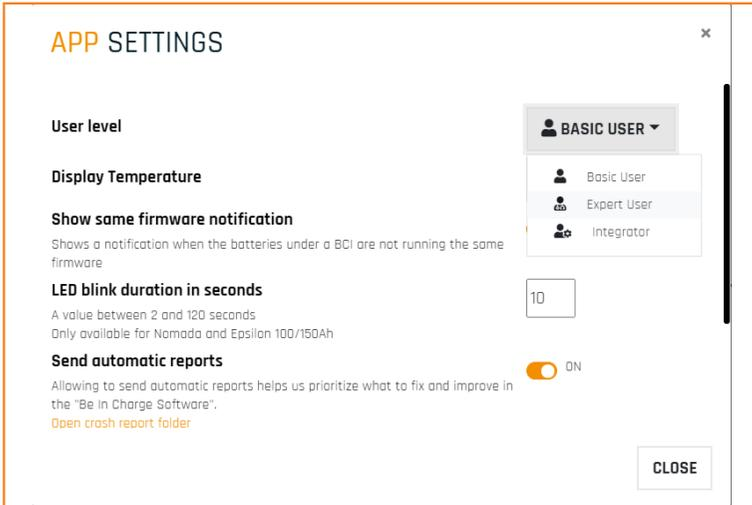
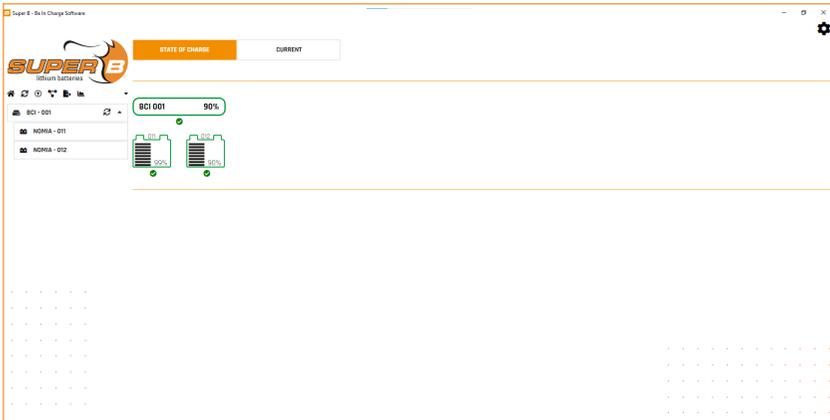
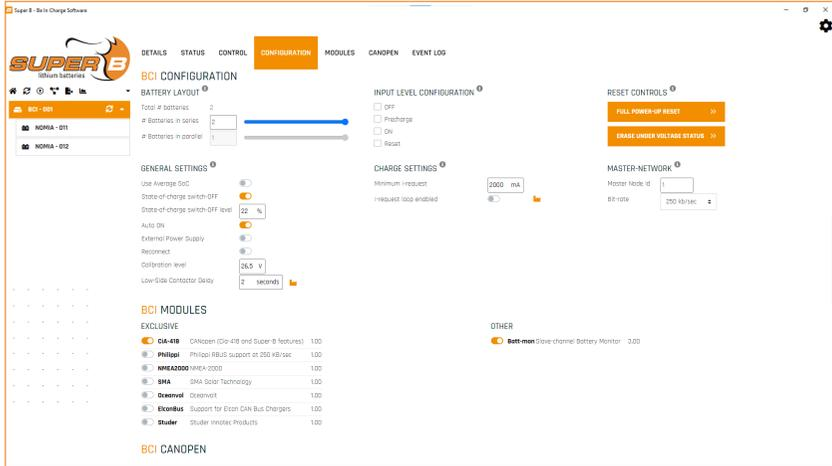

Figure 11. Set user level to 'Expert user'
Figure 15. State of charge tab - BIB and Li-ion batteries
Figure 16. BCI Configuration
2. Click 'Scan'. Make sure to select the full Node-id range by dragging the selection bars. The Be in Charge Software requests the BIB to scan for connected Li-ion batteries. When the scan is completed, the BIB and all Li-ion batteries connected to it will be shown (see figure 15). Select "BCI", the number of Li-ion batteries connected will be shown in the "BCI Configuration" section in the "Total # batteries" field (see Figure 16).
The BIB contains four hardware inputs: OFF, Precharge, ON and Reset (see Figure 16; this option is only visible if the user level of the Be in Charge Software is set to 'Integrator', see Figure 11). The inputs can be used to control the BIB. They can be set to active high or active low.
Note: this option is only visible if the user level is set to 'Integrator' (see Figure 11)
The "BCI Modules" section (see Figure 16) can be used to select a communication protocol for the slave connector of the BIB (J2). The default setting is CANOpen (CiA418 and Super B features). There is also an option to use proprietary protocols. This list is subject to change therefore, the list may look differently depending on the software version.
The 'Auto On' setting (see Figure 16) enables the automatic start up option function. If it is enabled the BIB will go to ON state (see 3.2.2.1) automatically when the BIB starts up or after a reset. The BIB will go to error state (see 3.2.2.4) if an error occurs. When the error is cleared the BIB will automatically go to ON state if the 'Auto On' function is enabled.